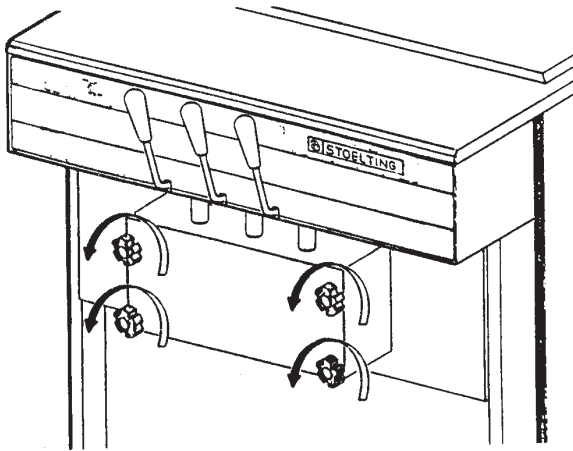

Figure 21. Removing Front Door
- B. Remove the front door by turning off the circular knobs and then pulling the front door off the studs (Fig. 21).